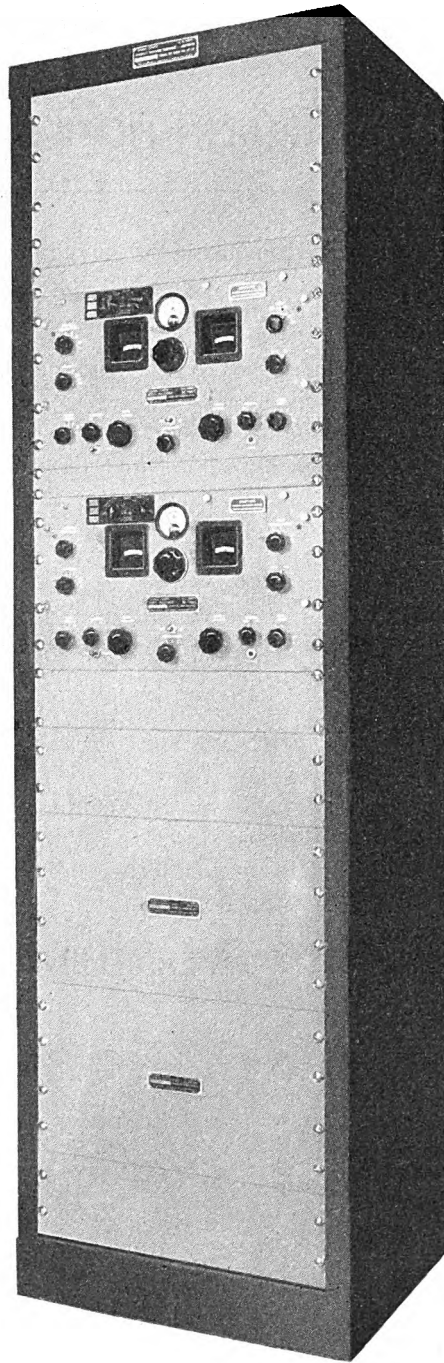

Figure 1. Radio Receiving Set AN/FRR-12.
Radio Receiving Set AN/FRR-12 (figs. 1, 3, and 4) is a fixed station set designed to avoid the effects of fading and primarily designed for use in a point-to-point radio-teletype system of communication. The term *fading* is intended to denote variations in signal strength over extremely short periods of time and is not to be confused with slow signal variations which may occur from hour to hour, day to night, or season to season.
Radio Receiving Set AN/FRR-12 consists of a standard Rack MT-660()/FRR-12 which contains two identical receivers and their power supplies (figs. 1, 3, and 4).
a. RACK MT-660()/FRR-12 (figs. 1, 3, and 4). This standard radio rack has the receivers and power supplies mounted in it so that their controls are accessible at the front. A door on the back of the rack allows access to the chassis of the receivers and power supplies for servicing. The door contains an inverted box which must be reversed when Dual Diversity Converter CV-31/TRA-7 is installed in the rack.